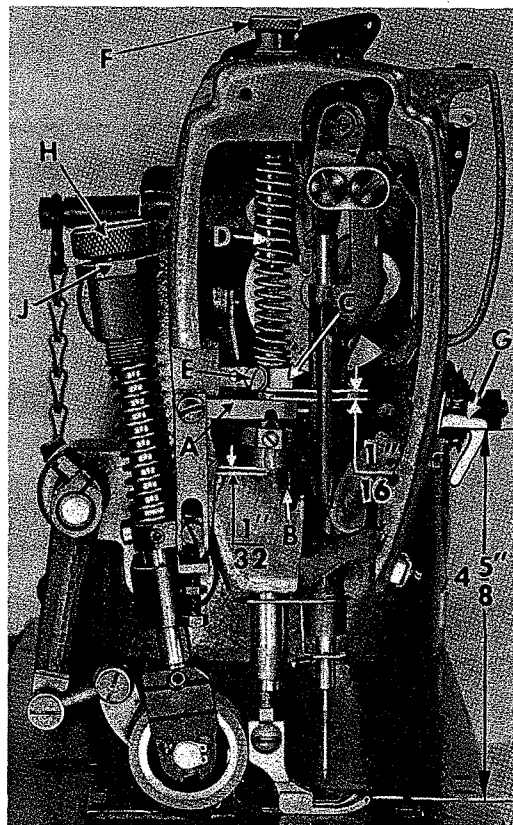

Fig. 16B
The presser bar connection (A, Fig. 16B) should be set so that it is approximately $\frac{1}{32}$ inch above the lower presser bar bushing (B, Fig. 16B). This is accomplished by tipping the machine back against the rest pin, loosening the lock nut (A, Fig. 15 - Cat. No. 126 M) and relocating the stop screw (B) on the lifter lever bell crank (C). By turning the stop screw to the right or left, the proper setting of the presser bar connection is accomplished. Tighten the lock nut (A) to lock the stop screw in place.
When locating the presser bar guide (C, Fig. 16B) the presser foot must rest directly against the throat plate with the feed dog in its lowest position. The guide is set properly when there is a $\frac{1}{16}$ inch space between the bottom of the presser bar guide (C) and the top of presser bar connection (A, Fig. 16B).
Set the needle thread pull-up bracket (G, Fig. 16B), so that the underside of the bracket is $4\frac{5}{8}$ inches above the throat plate (Fig. 16B).
Turning the regulator (H, Fig. 16B) clockwise increases the pressure and counterclockwise acts the reverse. Locking nut (J) is provided to maintain this setting.